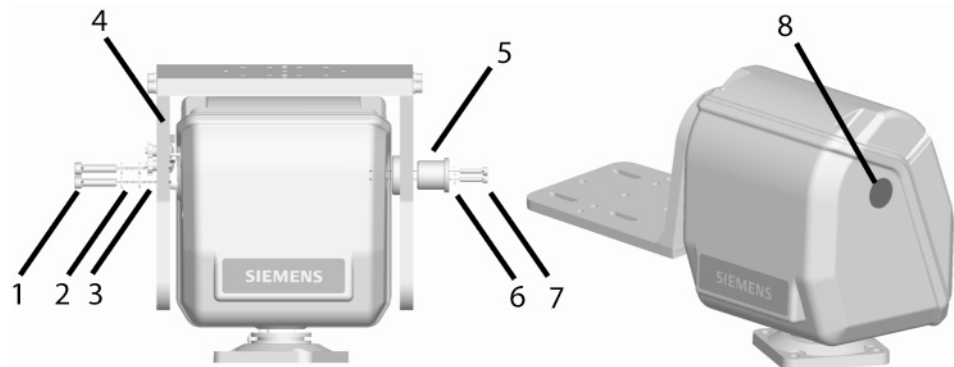

Fig. 9 Replacing an Over the Top platform with a Side Mount Kit
1. Undo and remove the four screws (1) and washers (2) & (3) securing the drive side platform yoke to the Pan and Tilt unit with a 5 mm Allen Key (see Fig. 9).
2. Undo and remove the two screws (7) and washers (6) holding the idle side yoke and stub shaft to the Pan and Tilt unit with a 3 mm Allen Key.
3. Remove the Over the Top bracket assembly (4).
5. Fit the supplied self-adhesive blanking disc (8) to the circular indentation left where the stub shaft was fitted.